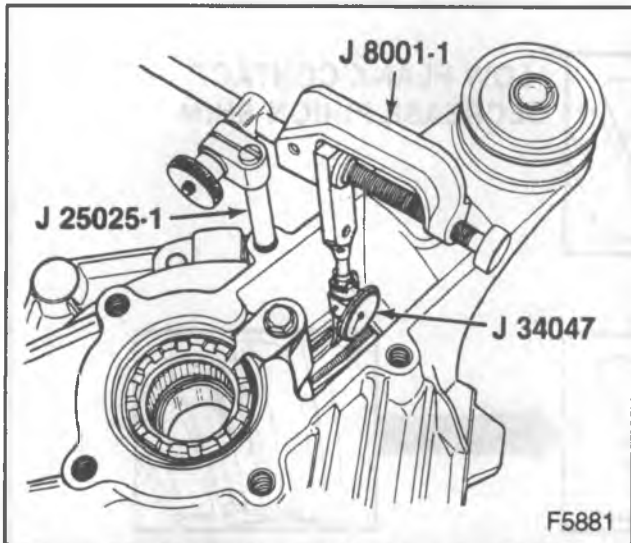

Figure 26—Measuring Backlash at the Ring Gear
7. Install J 34047, J 25025-1 and J 8001-1 (figure 26).